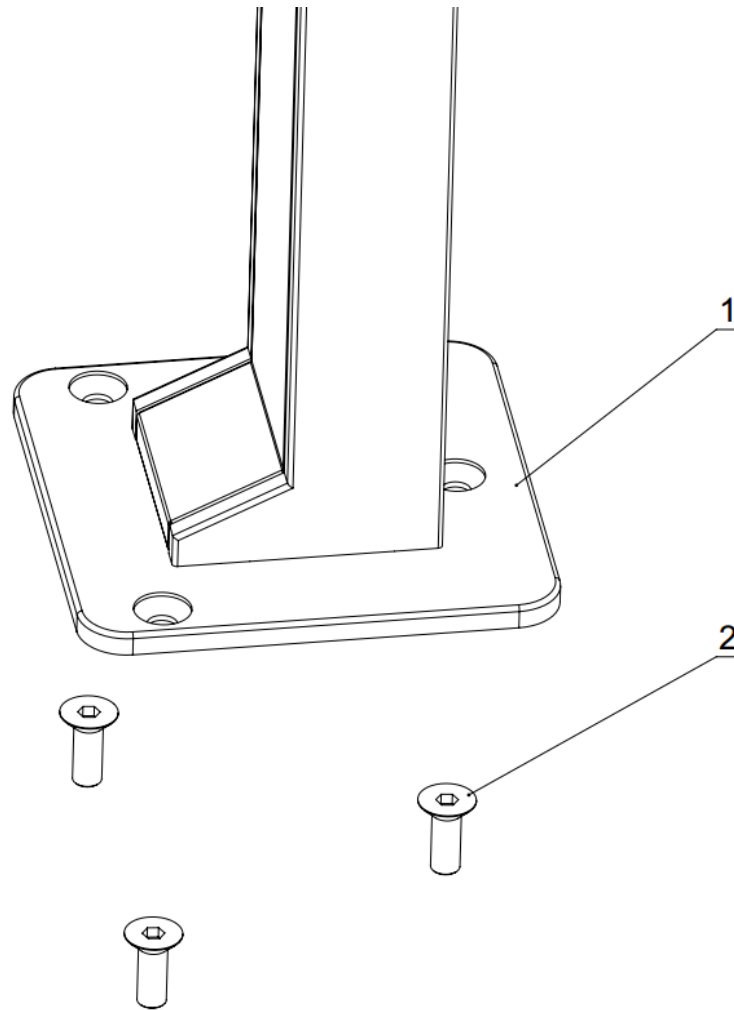

Fig.8. Installation diagram of the turnstile
4.2.8 Match the holes in the turnstile support (1, Fig.8) with the anchors in the floor. Check verticality of the installation in 2 planes, if necessary use steel gaskets of the required thickness for right installation of the turnstile. Fix the rack of the turnstile with three screws M8 (2, Fig 8), having screwed them to the appropriate anchors using internal hex wrench S5. Fix the base cover with double-sided adhesive tape.